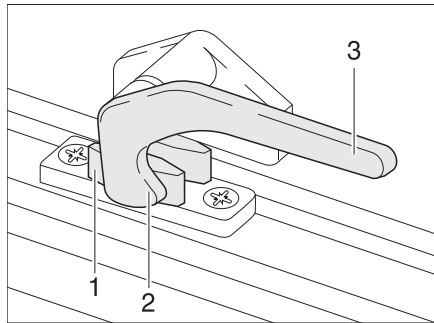

Fig. 41 Catch lever in "closed" position
- Turn the catch lever (Fig. 41,3) a quarter turn towards the centre of the window.
- Turn the catch lever (Fig. 41,3) a quarter turn towards the window frame. The locking catch (Fig. 41,2) is located on the inside of the window catch (Fig. 41,1).
- "Firmly closed" (Fig. 41).